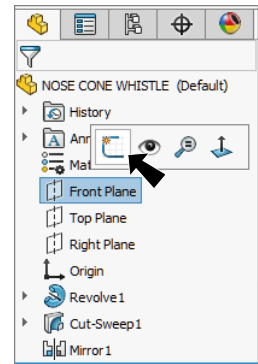

Fig. 27
Step 1. Click **Front Plane**  in the Feature Manager and click **Sketch**  on the context toolbar, **Fig. 27**.